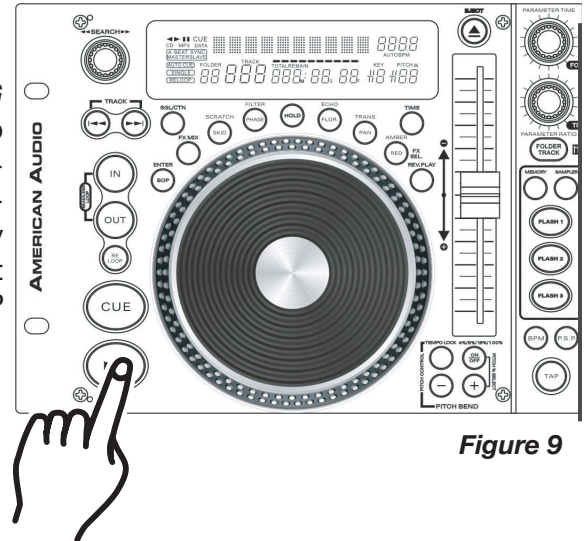
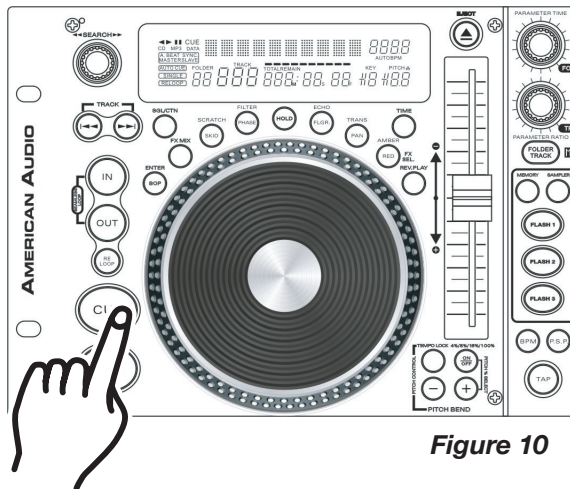
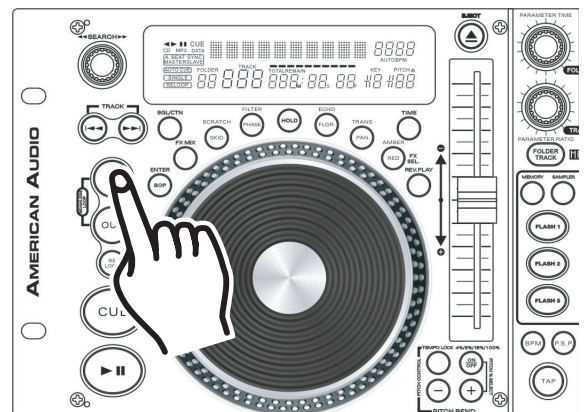

Figure 9
Figure 10
Figure 13
3. STARTING PLAYBACK - *Figure 9*
5. STOPPING PLAYBACK - *Figures 9 & 10*
- 1) Press the *PLAY/PAUSE BUTTON (23)* during playback. This will pause playback at the exact same point the *PLAY/PAUSE BUTTON (23)* was pressed.
- 2) Press the *CUE BUTTON (22)* during playback. This will pause playback and return the track to the last set cue point.
6. PAUSING - *Figure 9*
This feature allows you to scroll through a track frame by frame, allowing you to find and set a starting cue, sample, or loop point. To use the scroll function you must first be in Pause Mode (see section 5) or Cue Mode (see section 7). Once you are in Pause or Cue mode, turn the *JOG WHEEL* (24) to scroll through the track (Figure 13). Turning the wheel in a clockwise direction will advance the frame search and turning the wheel in a counterclockwise direction rewinds the frame search. When you use the *JOG WHEEL* (24) the monitor (headphone level) function allows you to hear what you are scrolling through. Once you reach your desired starting point you can set a cue (starting) point by pressing the *PLAY/PAUSE BUTTON* (23) as in Figure 9. Pressing the *CUE BUTTON* (22) as in Figure 10 will now return you to the point you just set.
A cue point is the exact point playback will begin when the *PLAY/PAUSE BUTTON* (23) is pressed. You may set your cue points anywhere on a disc or in a track. You may set up to four independent cue points per disk. Three cue points are stored in the *FLASH BUTTONS 1-3* (31) and one is shared by the *IN BUTTON* (33), *BOP BUTTON* (34) and the *CUE BUTTON* (22). There are two (2) ways to set and create a CUE point as detailed in figures 13 and 14
- 1) You may press the *IN BUTTON* (33) on the fly (while the disc is playing). This will set a CUE Point without music interruption. Pressing the *CUE BUTTON* (22) will now return you to the same point that you pressed the *CUE BUTTON* (22). You may now store this CUE Point in any of the *FLASH BUTTONS 1-3* (31). Pressing the *CUE BUTTON* (22), *BOP BUTTON* (34) or the *IN BUTTON* (33) will now return you to this exact point.
- 3) Press the *OUT BUTTON* (2) to set the ending point for your SEAMLESS LOOP (Figure 13). The *IN BUTTON* (33) and *OUT BUTTON* (2) LEDs will immediately begin to flash rapidly, indicating the SEAMLESS LOOP mode has been activated.